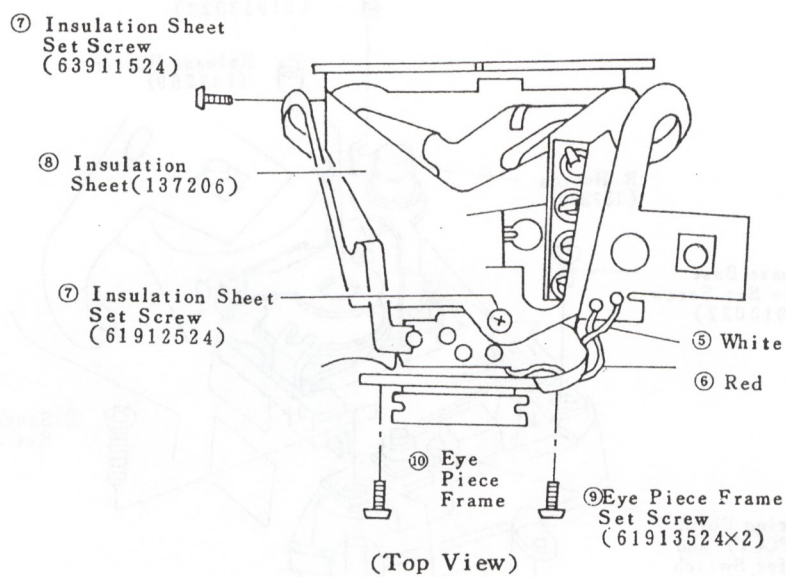

Fig 7
- d) Unsolder ⑤ White, ⑥ Red lead wires (from EXP Corrective LED Ass'y).
- e) Remove ⑦ two Insulation Sheet Set Screws (63911524)(61912524) and ⑧ Insulation Sheet (137206).
- f) Remove ⑨ two Eye Piece Set Screws (61913524×2) and ⑩ Eye Piece Frame (137185).
- See (Fig 7)